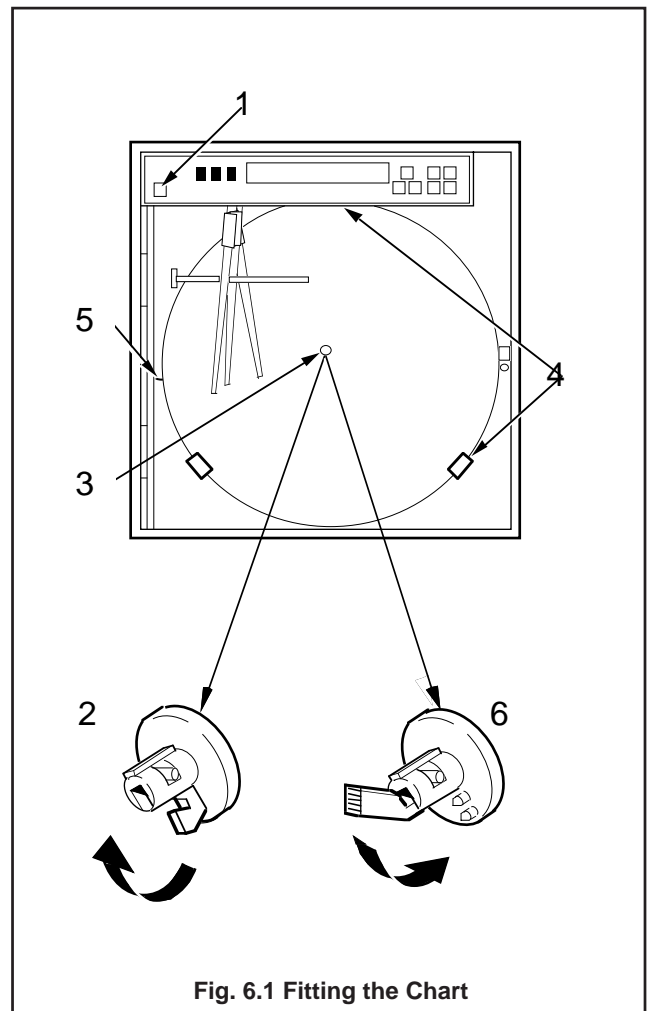

Fig. 6.1 Fitting the Chart
6.2 Fitting the Chart – Fig. 6.1